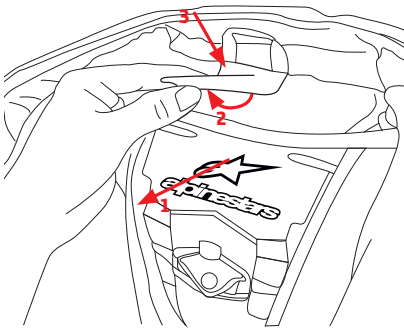
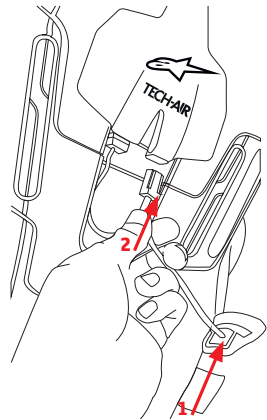

Figure 6
Figure 7
3. Fold out the second Velcro flap (12) and attach the collar Velcro on the Vest (13) to this new flap, centering it correctly (Figure 6).
4. Proceed to attach the lower shoulder velcro (15) and upper shoulder velcro (14) to the corresponding patches inside the suit lining on both the left and right shoulders.
5. Remove the LED display plug from the storage pocket (17) and plug it into the grey socket (5) (Figure 7).
8. Use the yellow zips on the suit (10) and the vest (1) to zip the Vest into the suit.